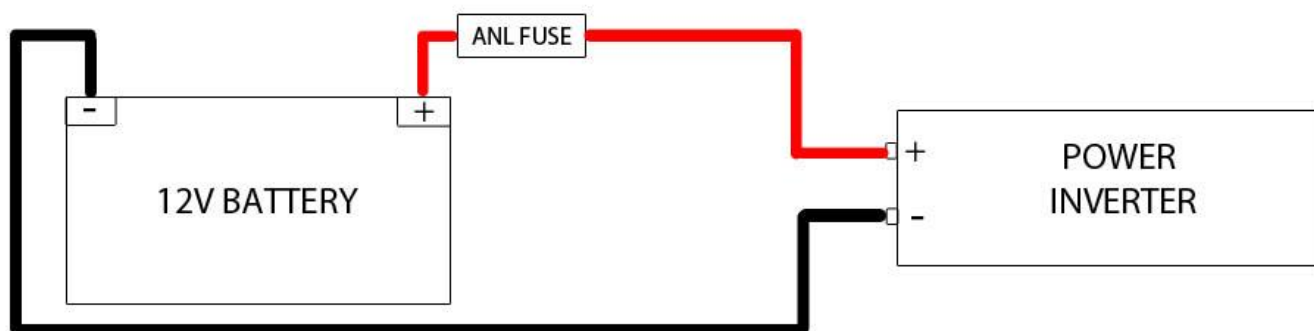

Figure 1
1. Using the included cables, directly connect the inverters (-) and (+) terminals to your automotive batteries respective (-) and (+) terminals, (See Figure 1 below). The cables should be bolted to the battery clamps for a solid connection (do not use jumper cables for installation). We recommend using an ANL inline fuse or circuit breaker (not included).